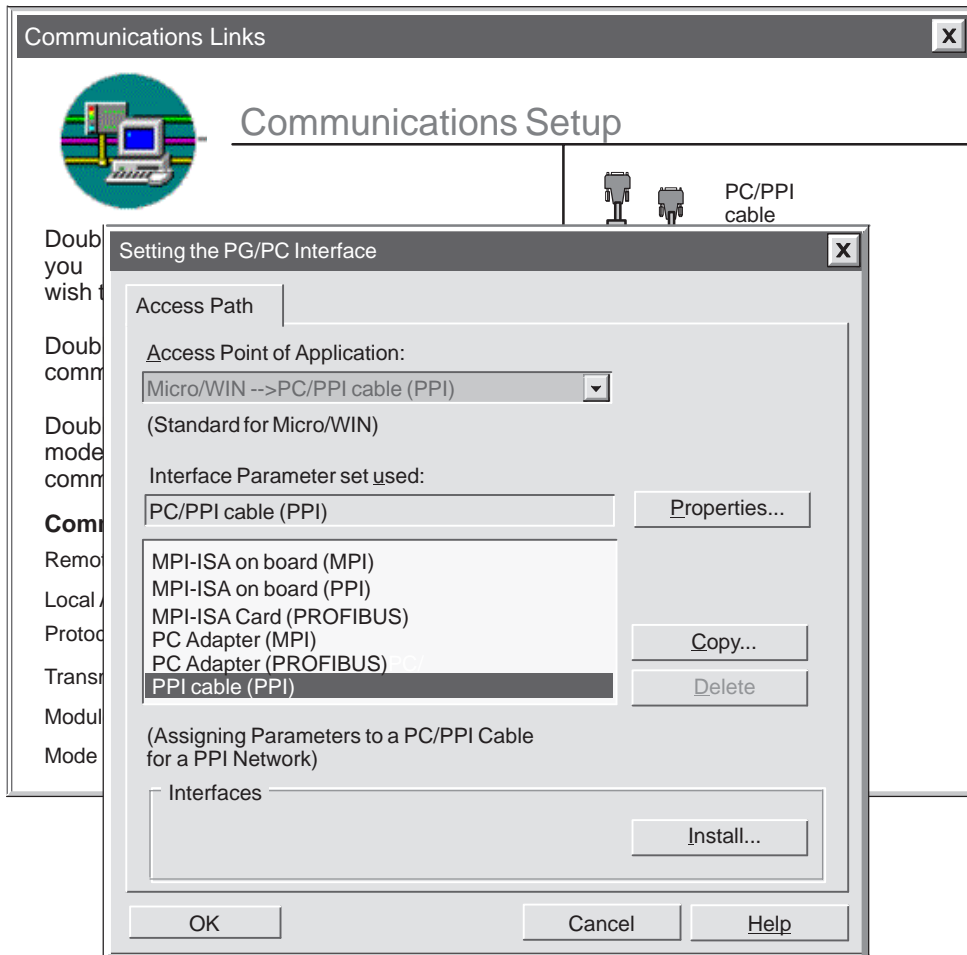
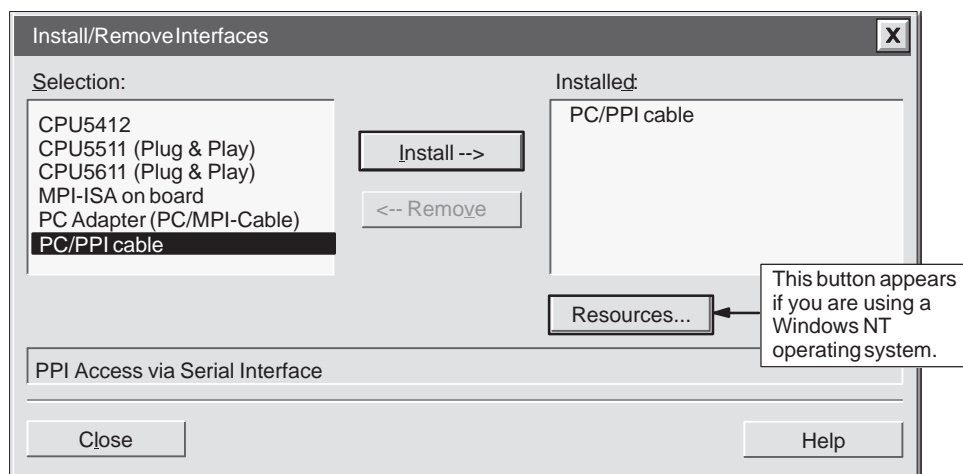
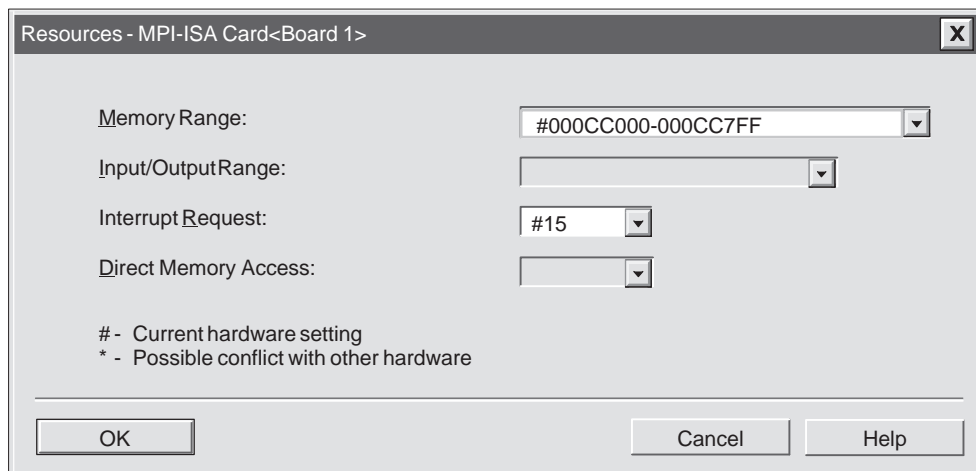

Figure 7-4 Setting the PG/PC Interface Dialog Box
Figure 7-5 Install/Remove Interfaces Dialog Box
Figure 7-6 Resources Dialog Box for Windows NT
In the Communications Setup dialog box, double-click the top icon on the right-hand side. The Setting the PG/PC Interface dialog box appears. See Figure 7-4.
You can install or remove communications hardware by using the Install/Remove Interfaces dialog box shown in Figure 7-5. On the left side of this dialog box is a list of hardware types that you have not installed yet. On the right side is a list of currently installed hardware types. If you are using the Windows NT 4.0 operating system, there is a “Resources” button under the Installed list box.
1. In the Setting the PG/PC Interface dialog box (shown in Figure 7-4), press the “Install” button to access the Install/Remove Interfaces dialog box, shown in Figure 7-5.
4. When you are finished installing hardware, click the “Close” button. The Setting the PG/PC Interface dialog box appears, and your selections are shown in the Interface Parameter set used list box (see Figure 7-4).
3. When you are finished removing hardware, click the “Close” button. The Setting the PG/PC Interface dialog box appears, and your selections are shown in the Interface Parameter set used list box (see Figure 7-4).
When you have installed a piece of hardware, select it from the Installed list box and click the “Resources” button (Figure 7-5). The Resources dialog box appears (Figure 7-6). The Resources dialog box allows you to modify the system settings for the actual piece of hardware that you installed. If this button is unavailable (gray), you do not need to do anything more.
When you have reached the Setting the PG/PC Interface dialog box, be sure that “Micro/WIN” appears in the Access Point of Application list box (see Figure 7-4). The Setting the PG/PC Interface box is common to several different applications, such as STEP 7 and WinCC, so you may need to tell the program the application for which you are setting parameters.
1. In the Setting the PG/PC Interface dialog box (see Figure 7-4), select “Micro/WIN” in the Access Point of Application list box in the Access Path tab.